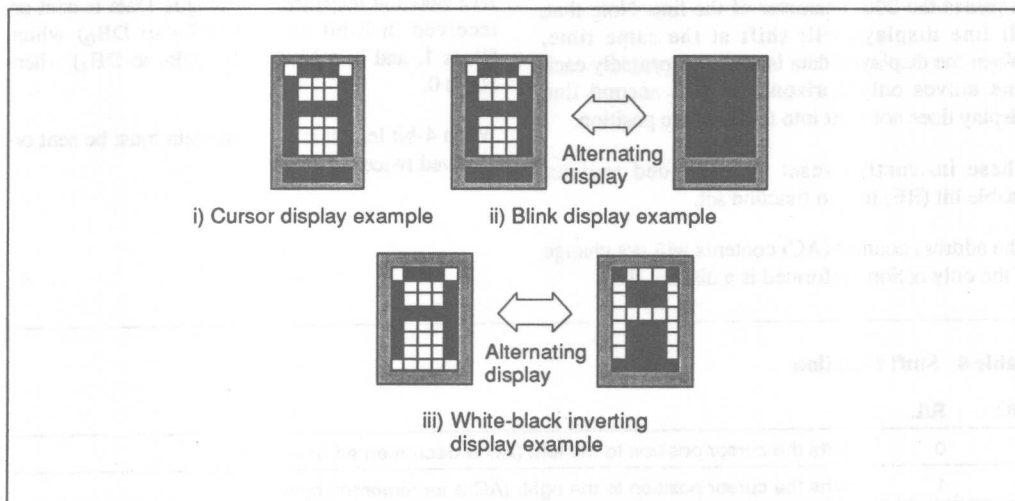

Figure 14 Cursor Blink Width Control
**B:** The character indicated by the cursor blinks when B is 1 (figure 14). The blinking is displayed as switching between all blank dots and displayed characters at a speed of 370-ms intervals when  $f_{cp}$  or  $f_{osc}$  is 270 kHz. The cursor and blinking can be set to display simultaneously. (The blinking frequency changes according to  $f_{osc}$  or the reciprocal of  $f_{cp}$ . For example, when  $f_{cp}$  is 300 kHz,  $370 \times 270/300 = 333$  ms.)